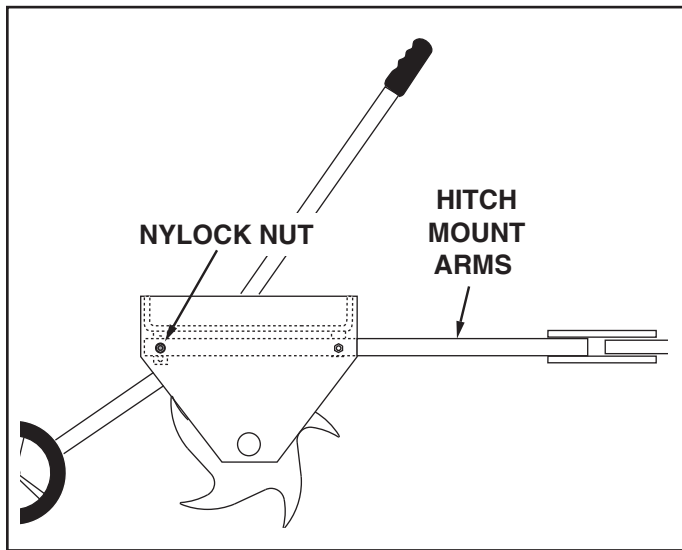

FIGURE 16
1. To level the spike tray after the aerator is attached to the tractor hitch, loosen the nylock nuts holding the hitch mount arms to the brackets at the rear of the tray. Make the tray as level as possible and then retighten the nuts. See figure 16.